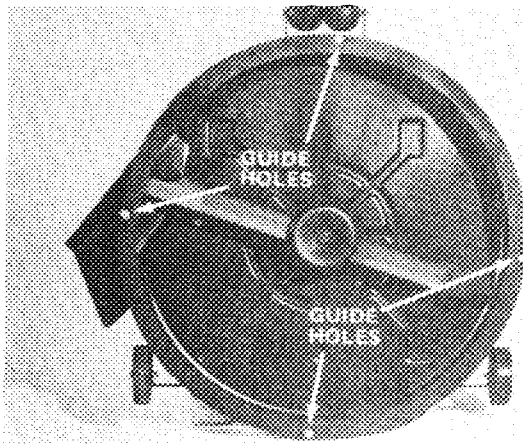
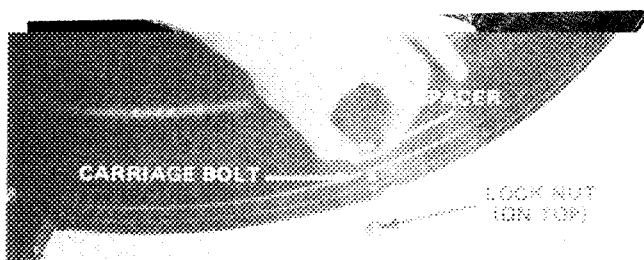

Figure 1
Figure 2
1. Align deck ring guide holes (Fig. 1). and secure to deck with (4) carriage bolts, spacers and lock-nuts (Fig. 2).
3. Secure ends of deck rings with (8) carriage bolts, spacers, and locknuts (Fig. 2).